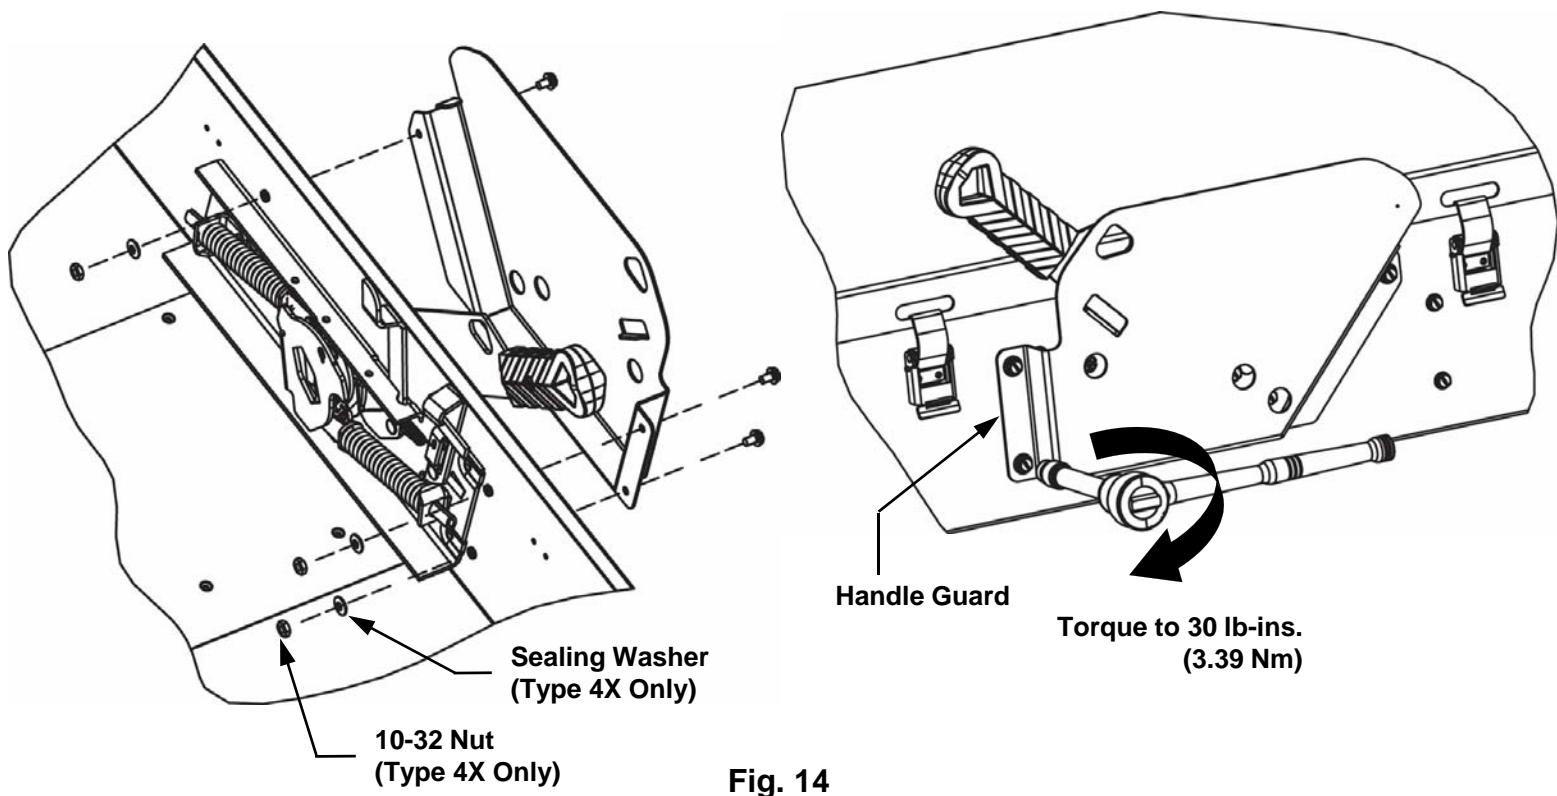

Fig. 14
12. Place the handle guard onto the enclosure as shown in Fig. 14. Secure with (3) #10-32 x 0.312" screws (saved from Step 5 above). Include sealing washers and #10-32 nuts for type 4X enclosures only.
(See Fig. 14) Move the safety Switch handle to the ON position.